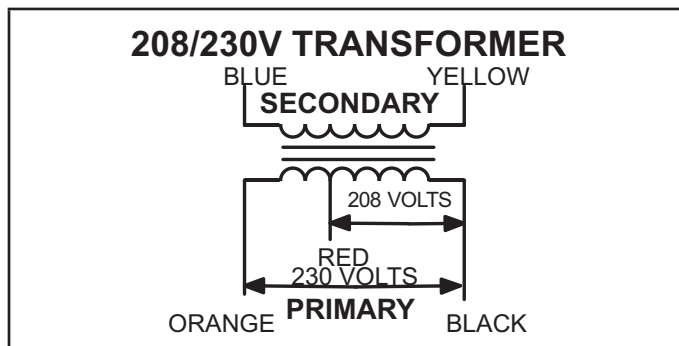

FIGURE 4
All use a single line voltage to 24VAC transformer installed in the control box. The transformer supplies power to control circuits in the unit. The transformer is rated at 70VA and is protected by a 3.5 amp circuit breaker (CB8). The 208/230 (Y) voltage transformers use two primary voltage taps as shown in FIGURE 4, while 460 (G) and 575 (J) voltage transformers use a single primary voltage tap.